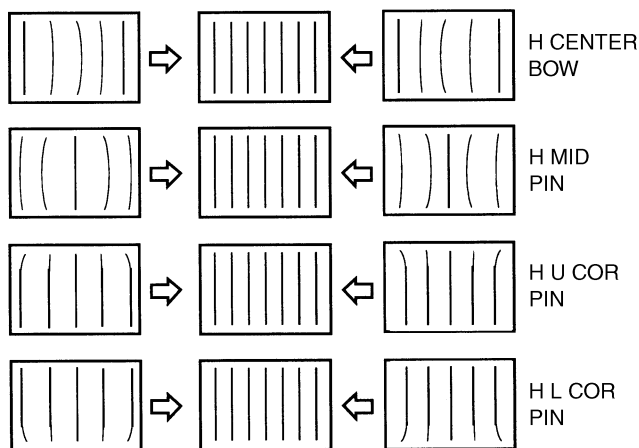

Fig. 1-12
11. Adjust the H U COR PIN and H L COR PIN data as shown in Fig. 1-12.